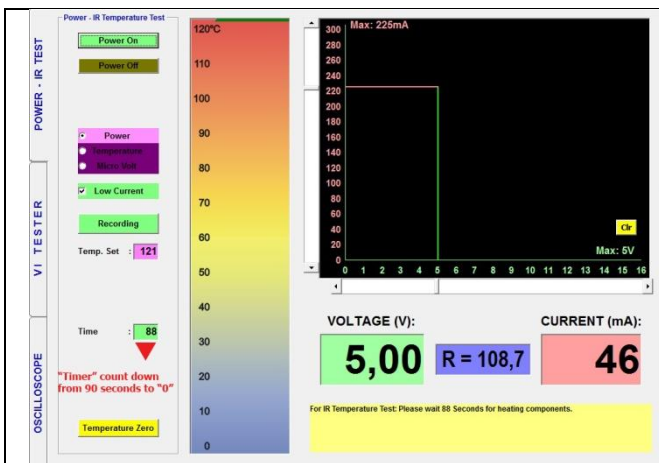

Figure 45: Timer 90 Seconds (Step 3)
Note: in the IR Temperature Test, the electronic circuit board may also be energized by clicking the "Power On" Button. (Figure 45)
4. When the Voltage limitation is reached, if the Electronic circuit board is drawing current, the "Timer" starts counting down from "90" seconds to "0". (Figure 45)